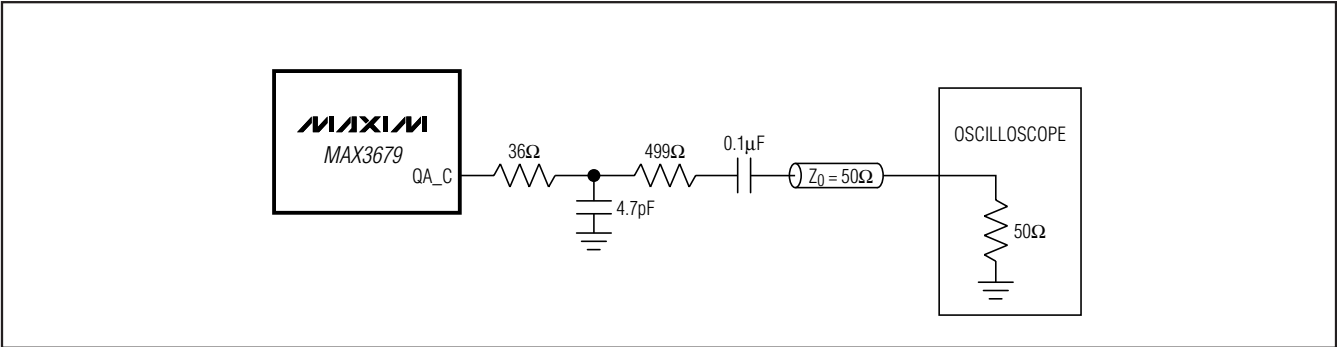

Figure 1. LVCMOS Output Measurement Setup
- Note 6:** Measured using setup shown in Figure 1 with VCC = 3.3V ±5%.